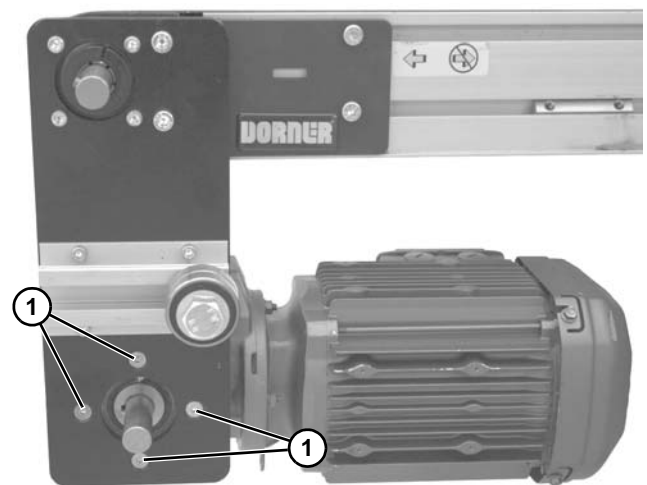

Figure 28
8. Remove four (4) gear motor mounting screws (Figure 28, item 1). Remove gearmotor.
9. Install gearmotor to mounting bracket and tighten screws (Figure 28, item 1) to 110 in-lb (12 Nm).